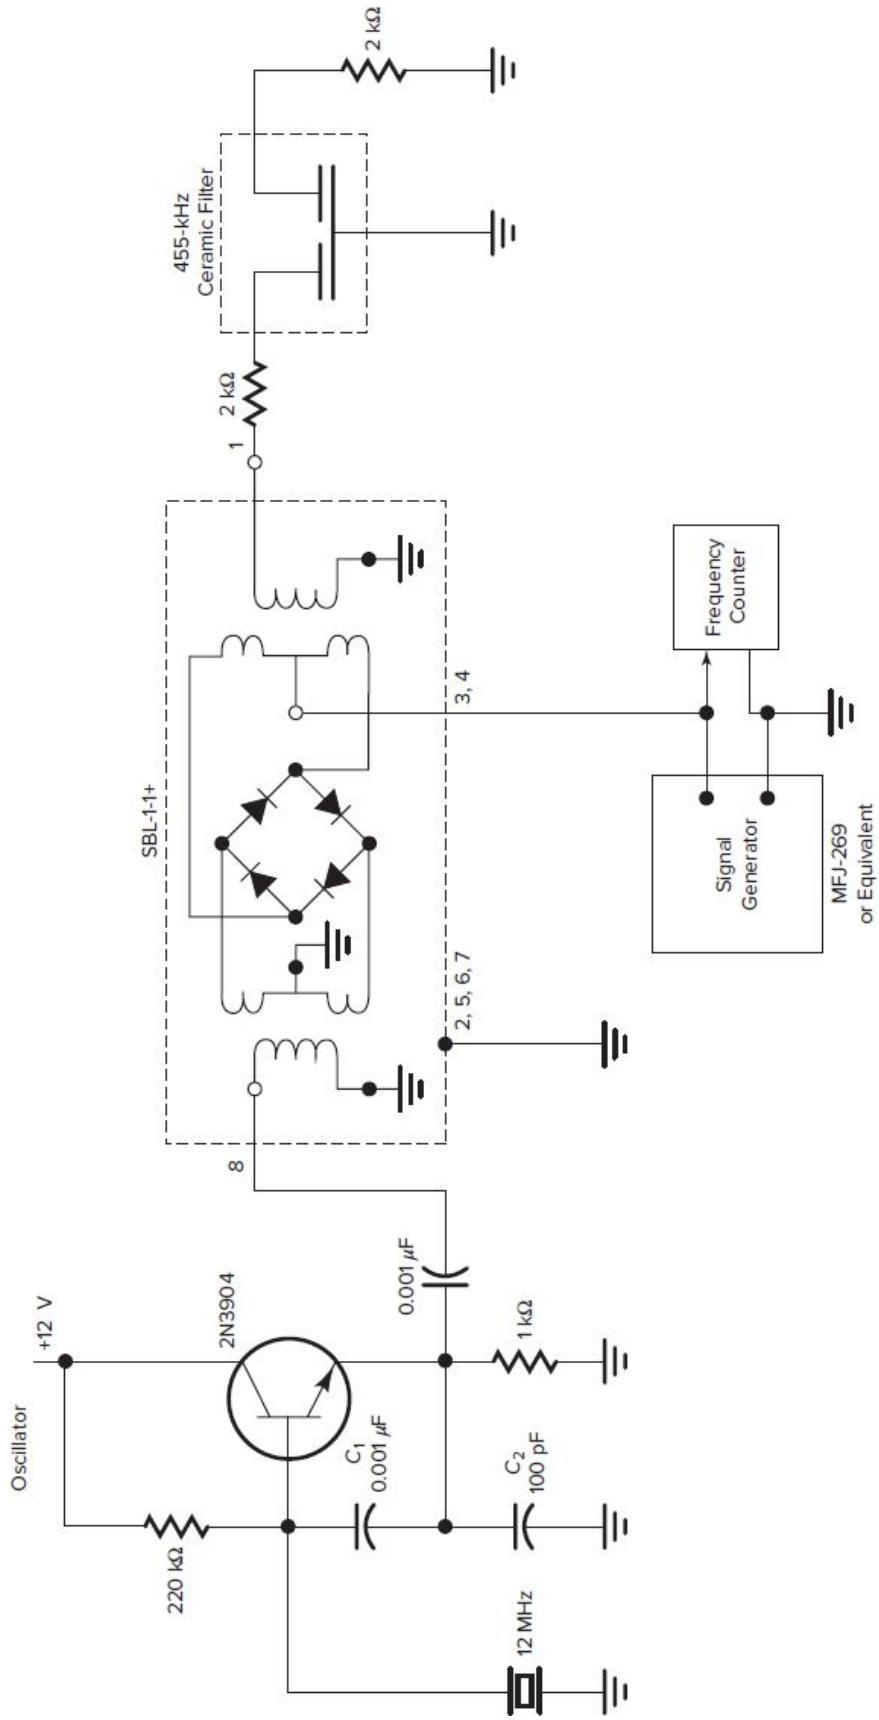
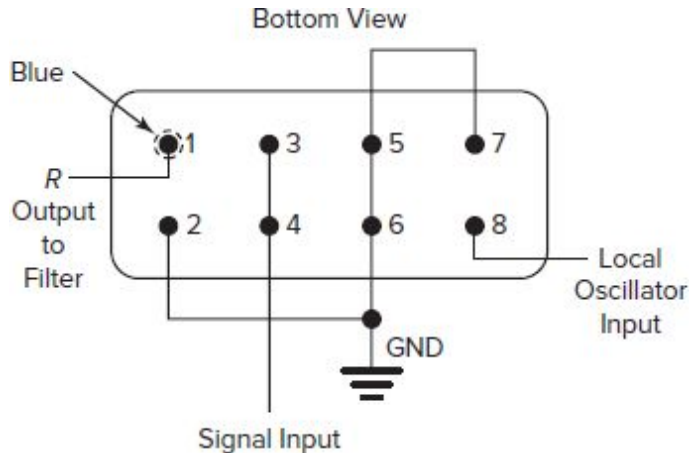

Fig. 9-6 Circuit for demonstrating mixer operation.
Fig. 9-7 Wiring for the SBL-1-1 +.
1. Construct the circuit shown in Fig. 9-6. Be sure to wire the mixer as shown in Fig. 9-7. The circuit uses the crystal oscillator circuit from Project 8-2 that produces a 12-MHz output. This will be used as the local oscillator (LO). An external signal generator will be used for the signal source. This generator should be variable so that its frequency can be varied. A frequency counter is needed to measure the signal frequency from the generator. If the MFJ-269 is used, the counter is internal and a separate unit is not needed. The mixer is a commercial diode ring-type mixer designated as the Mini-Circuits SBL-1-1+. The 455-kHz band-pass ceramic filter used in Project 2-3 will serve to extract the sum or difference frequency.